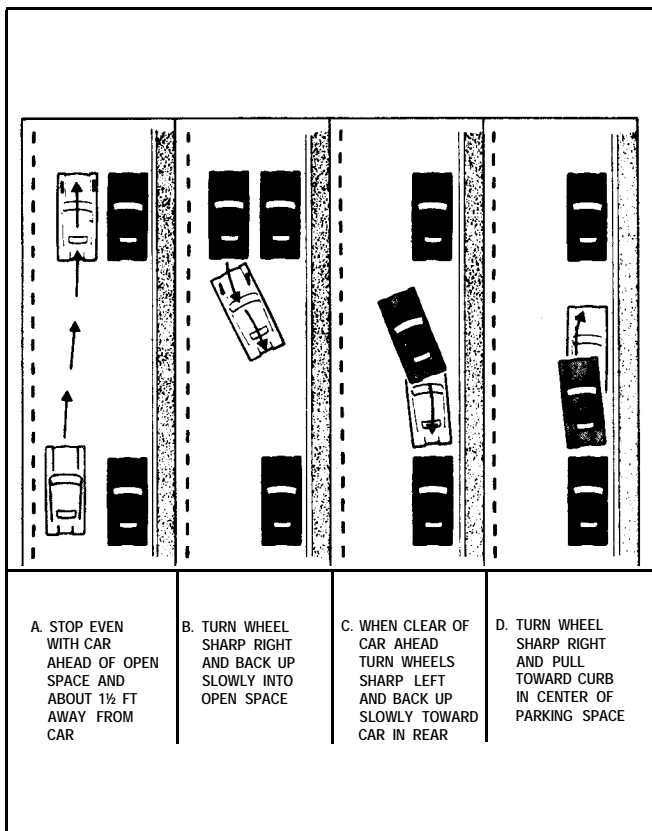

FIGURE 22
a. **Parallel Parking.** Most metropolitan areas require parallel parking. To park efficiently, the initial position in which the parking vehicle pulls up parallel with the car ahead (Figure 22) is important. Avoid parking with curb-side wheels against the curb,